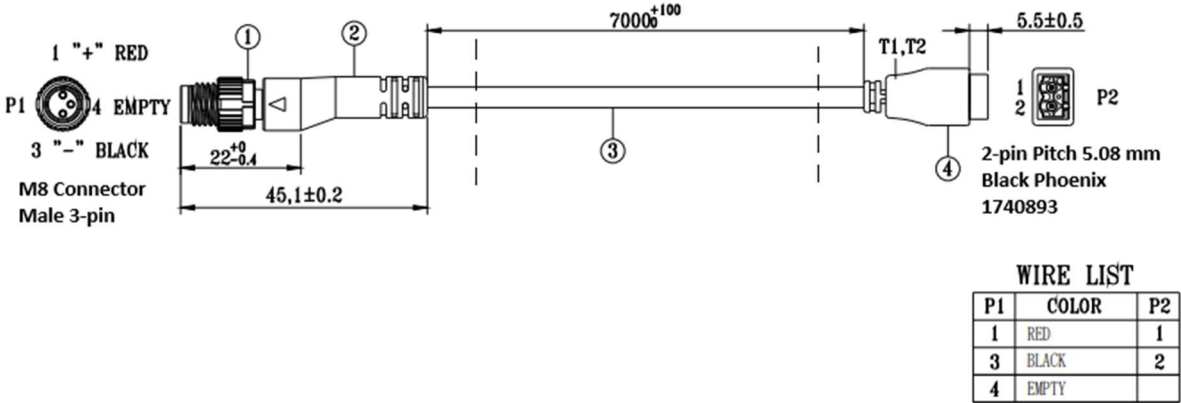

Fig 1: The output cable of the Axis Camera Heater Power Supply
- Cut the 7m (23ft) cable 3 (Fig 1) as close to connector 4 (Fig 1) as possible while leaving enough length to connect the extension cable.
- To maintain the IP66 rating of a mounted assembly, connector 2 (Fig 1) and cable 3 (Fig 1) should remain intact and long enough to reach the necessary splice point within the respective housing.
- Please leave the Power supply cable intact. It contains a ferrite placed there for compliance reasons. Only cut the 7 m (23 ft) extension cable 3 (Fig 1).
- Connect another cable than the 7 m (23 ft) cable 3 (Fig 1).